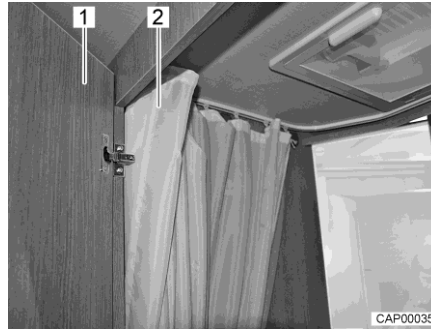

Fig. 71 Toilet compartment with shower
- For showering, close the door (Fig. 71,1) and completely close the shower curtain (Fig. 71,2) so that all walls are protected.